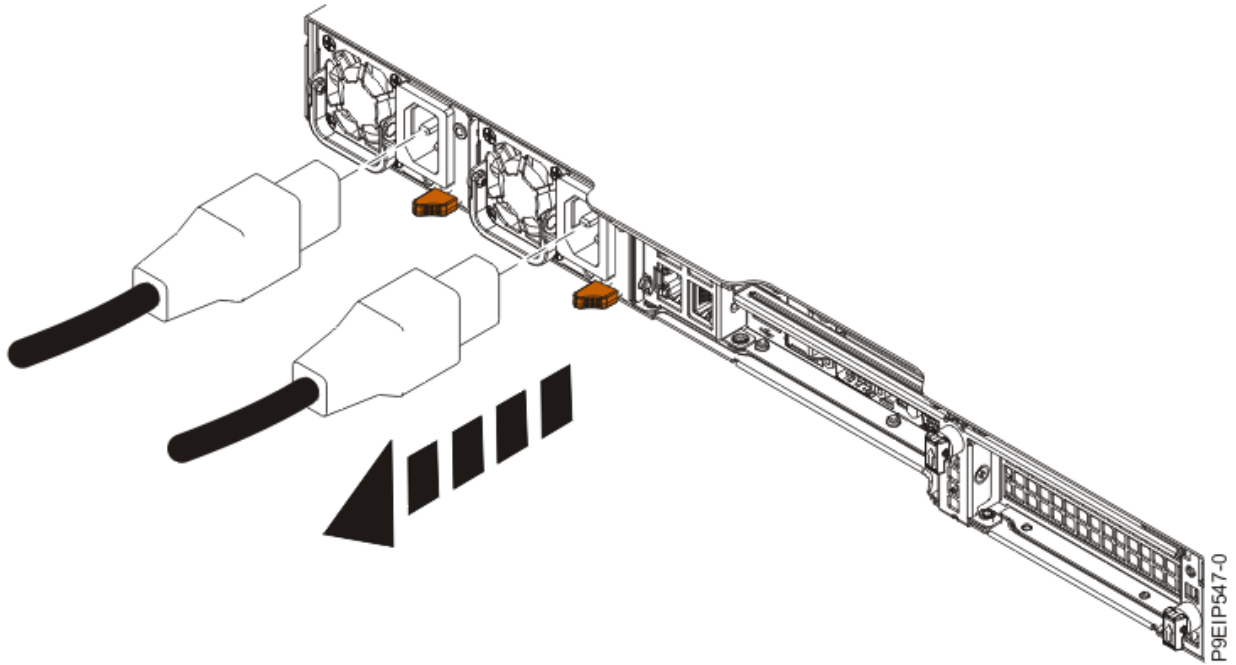

Figure 75. Removing the power cords from the system
2. Label and disconnect the power cords from the system unit as shown in Figure 75 on page 98.